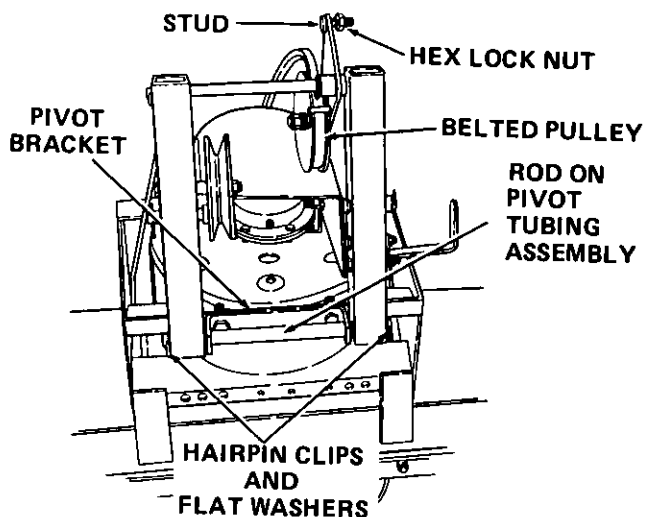

Figure 10
4. Install pivot tubing assembly (1-1) onto pivot bracket as follows. Refer to Figure 10.
- b. Place pivot tubing assembly over pivot bracket as shown in Figure 10. Belted pulley should be on RIGHT side.
5. Loosely install one hex lock nut (2-8) on stud on idler bracket. Do not tighten. Refer to Figure 10.